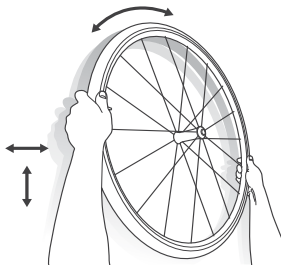

Figure 7. Spin/shake the wheel
7. While holding the wheel, rock the wheel back and forth and spin to spread the sealant around the inside of the tire (Figure 7).